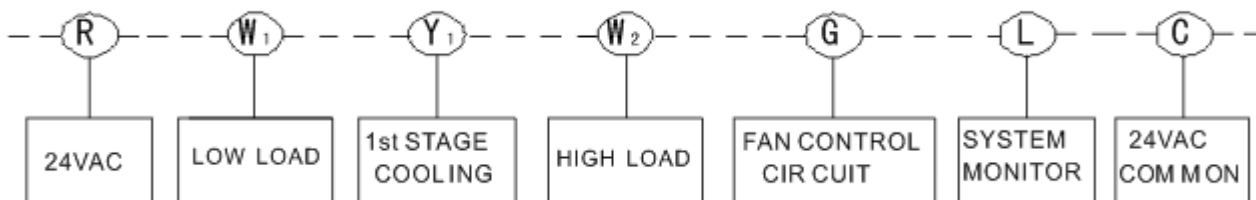

Figure 3
9. Insert stripped, labeled wires into matching wire terminals. See "Wiring Diagrams", Section 3, Figure 3.